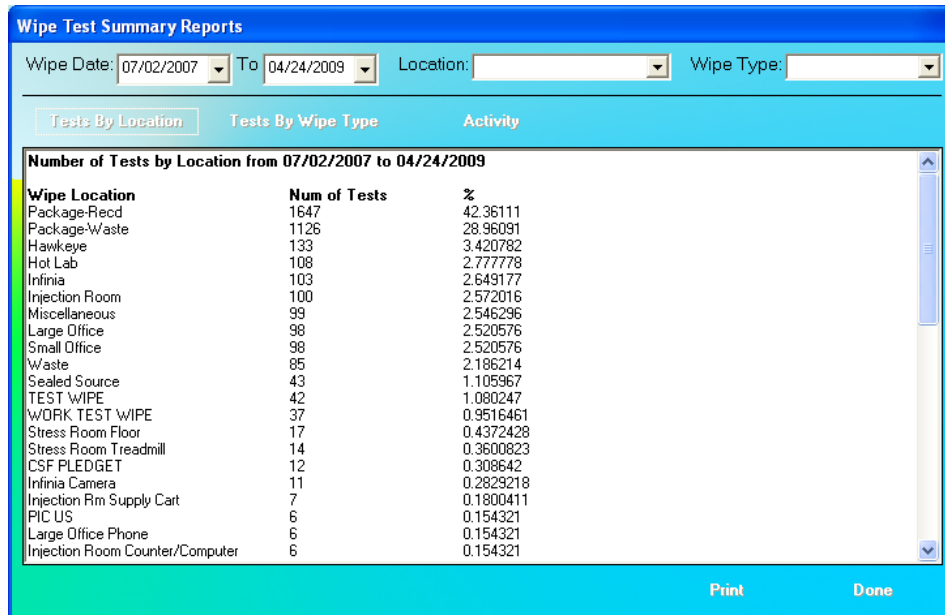
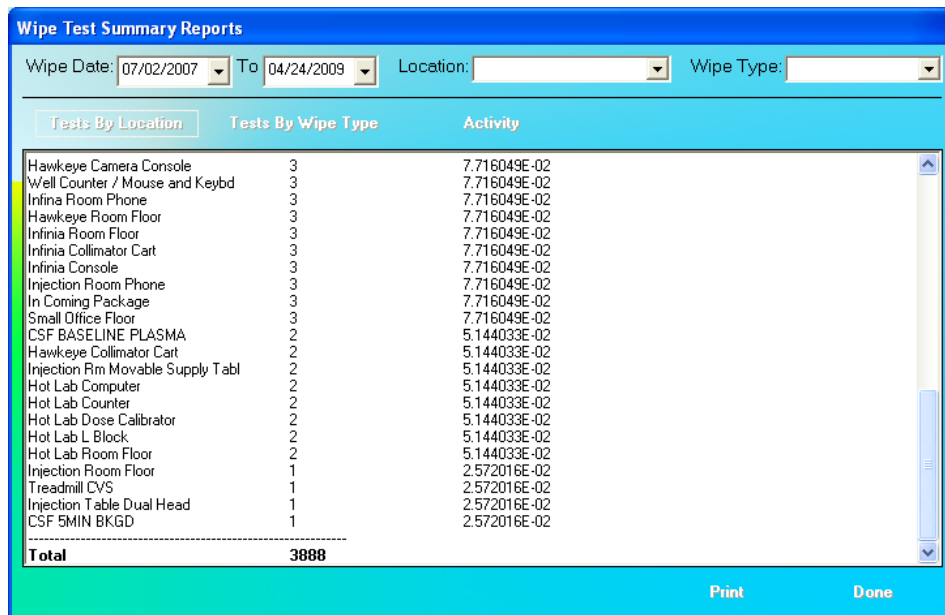

Figure 8-37 Summary Report – Tests By Location 1
Figure 8-38 Summary Report – Tests By Location 2
– Clicking this button will display a list showing the number of tests by wipe location for the set criteria. The data is sorted by the total number of tests performed per Wipe Location. A percentage is given for the number of tests performed at each wipe location versus the overall total number of tests performed. Reference Figure 8-37 Summary Report – Tests By Location 1 and Figure 8-38 Summary Report – Tests By Location 2.